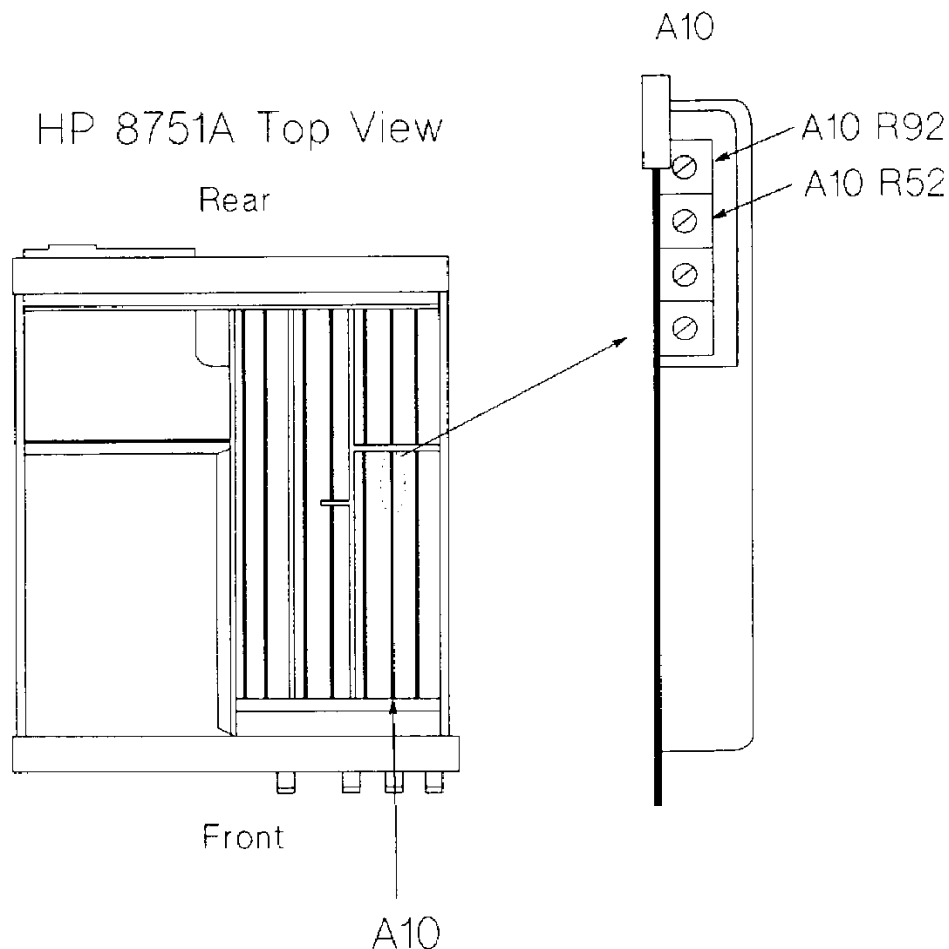

Figure 2-2 Input-A 2nd IF Mixer Tracking Adjustable Component
5. Adjust the A10R52 until the trace is 0 \pm 0.5 deg (The current scale must be 0.5 deg/div.). A10R52's location is shown in Figure 2-2.
7. Adjust A10R92 until the trace is 0 \pm 0.1 dB. (The current scale must be 0.1 dB/div). A10R92's location is shown in Figure 2-2.